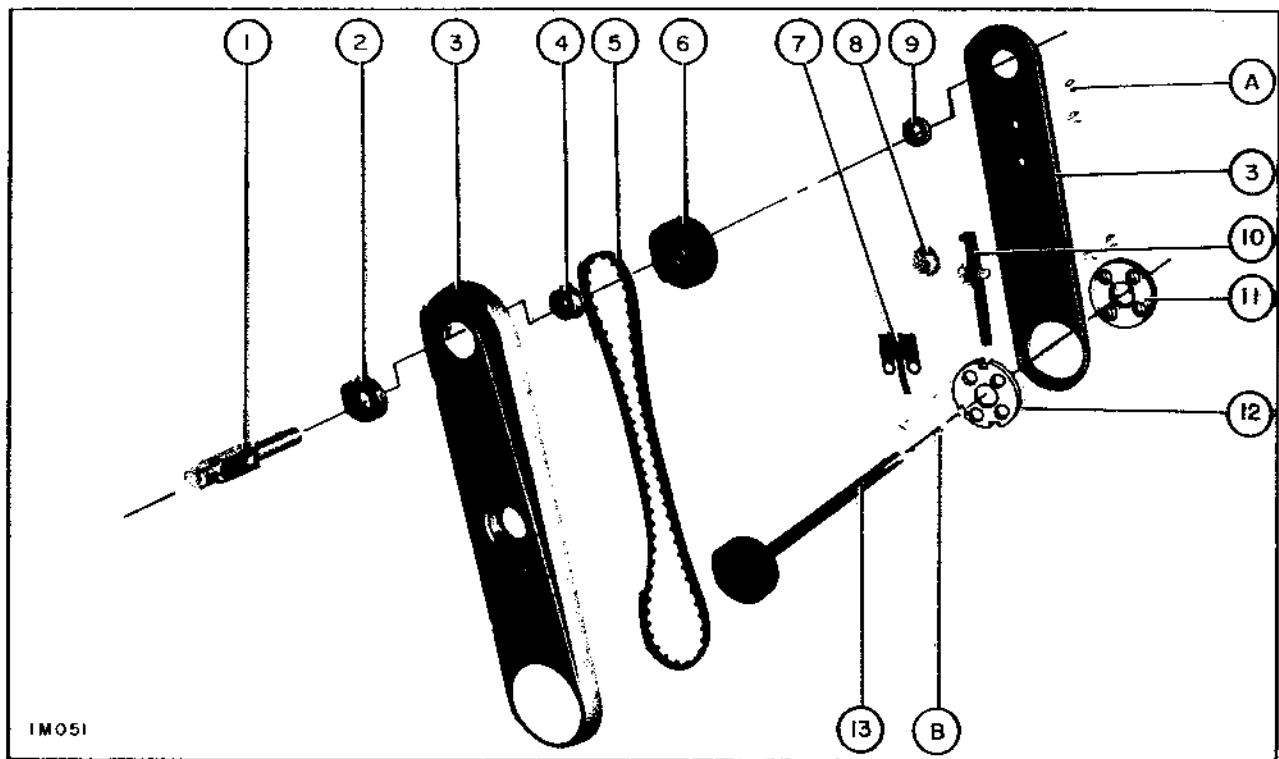

Figure 35
2. Remove screws (A) on rear of arm, remove front half and internal parts (5), (7), (8), and (10). (Figure 35).
3. To remove shaft (1), spacer (2), and gear (6), loosen setscrew (C) and separate assembly. When reassembling, tighten setscrew onto flat of shaft.
4. To remove gear and shaft (13) from front arm, refer to Pulley-Clutch disassembly procedures. (Page 28).
5. To remove gear and shaft (13) from rear arm, refer to Torque Limiter disassembly procedures. (Page 32).
6. To remove reel arm from projector, remove screws (B) from retainer (12). Note position of slots in retainer for reassembly.
7. To remove bearings (4) and (9), press out from outside of arm. Apply uniform pressure to the outer diameter of the bearing.
9. To reassemble arm to projector, install retainer in proper position and tighten screws. Make certain that spacer washer (11) is still in position.
10. Refer to applicable assembly procedures from steps 4 or 5 to reassemble gear and shaft (13).
11. To reassemble arm, hold arm in horizontal position. Install spring (7) into rear of arm with protruding tab of spring positioned toward pawl slot.